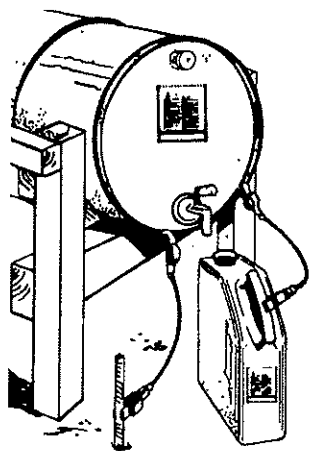

Figure 25-6: Ground Containers to Prevent Static Electricity Buildup
- Use copper grounding straps to keep static electricity from building up in containers, racks, flooring, and other surfaces (Figure 25-6).